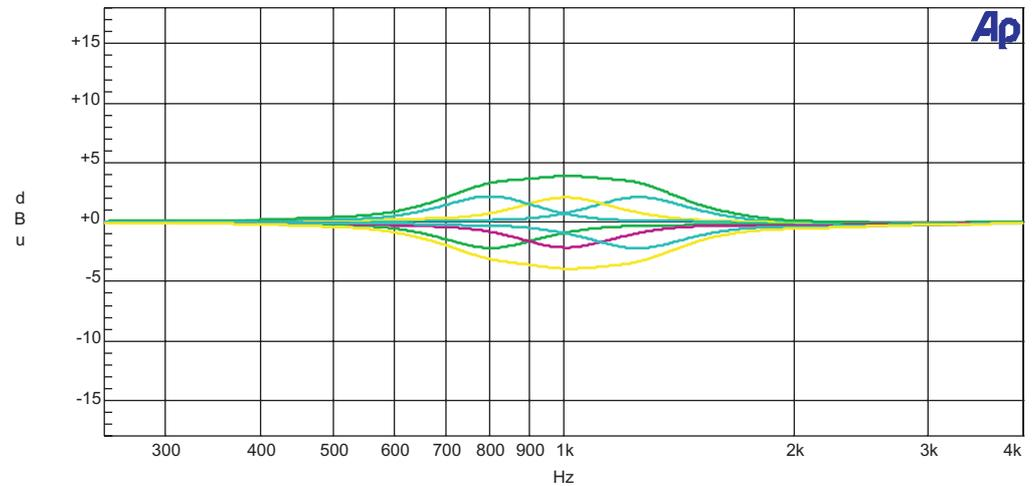
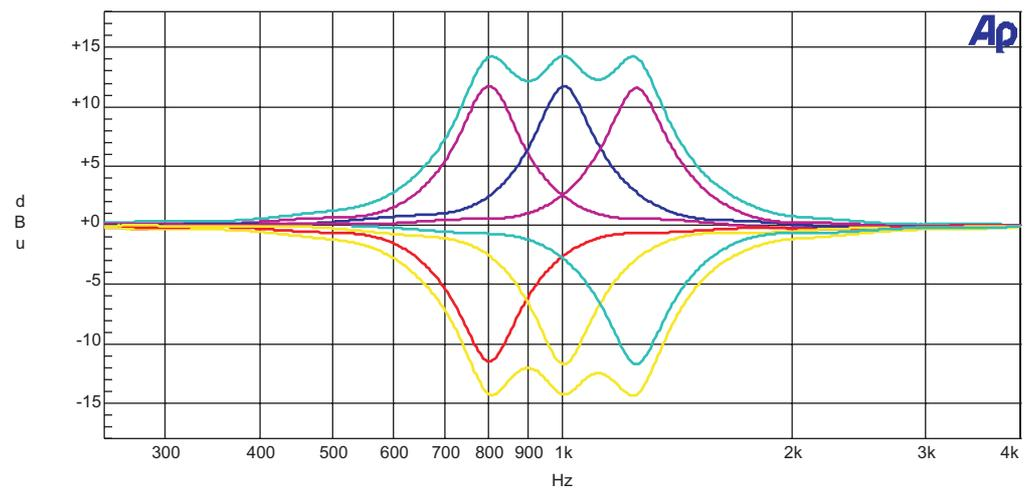

Figure 5 DN370 response  $\pm 2$ dB boost and cut
Figure 6 DN370 response full boost and cut
**Figure 5** and **Figure 6** show the DN370 response for both 2 dB and full scale boost and cut, note that the smooth combining of the bands for small amounts of boost and cut is very similar to that of the Symmetrical-Q equaliser in its 'wide' mode, whilst as more boost or cut is applied, the response becomes sharper, giving much more precise control of problem frequencies.